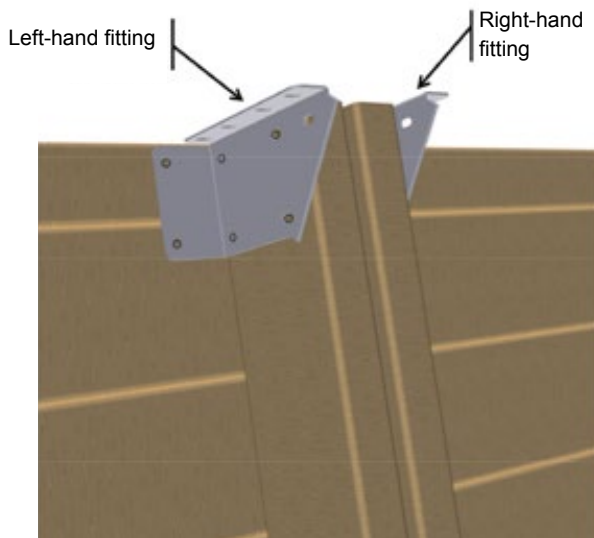

Figure 18 – Mounting the fittings on top of the supporting brace
- On top of each of the 4 metallic supporting braces and the two wooden supporting braces, place a 'right-hand' fitting and a 'left-hand' fitting from the 'Fastening elements' kit as shown in Figure 18. Use 6 hinge screws 6 × 20 in A2 SS (bag G) per fitting, that is a total of 72 screws.